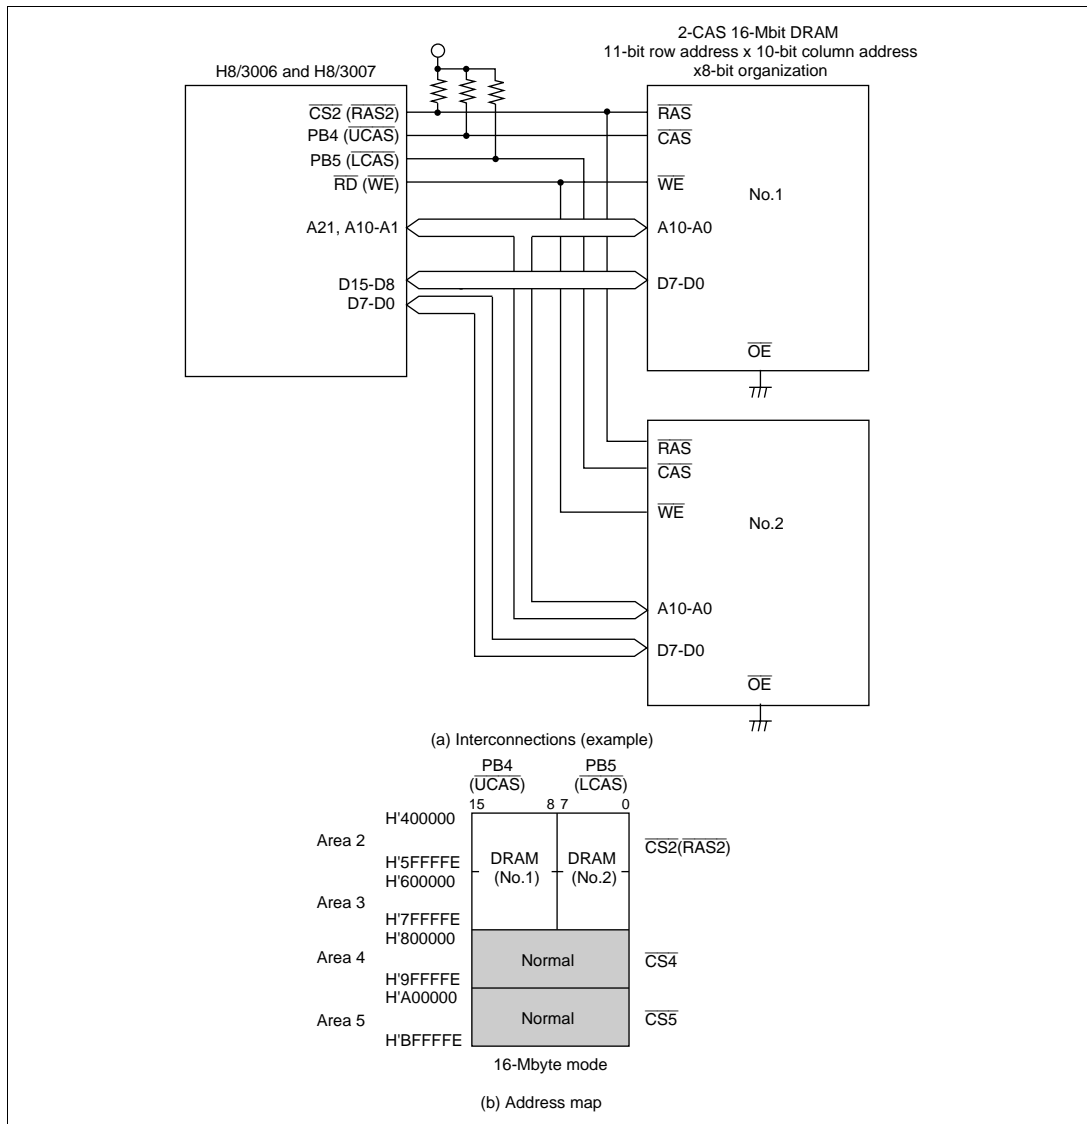

Figure 6.30 Interconnections and Address Map for 16-Mbit DRAMs with $\times 8$ -Bit Organization
- Figure 6.30 shows typical interconnections when using two 16-Mbit DRAMs using a $\times 8$ -bit organization, and the corresponding address map. The DRAMs used in this example are of the 11-bit row address \times 10-bit column address type. The $\overline{\text{CS2}}$ pin is used as a common $\overline{\text{RAS}}$ output pin for area 2 and area 3. When the DRAM address space spans a number of contiguous areas, as in this example, the appropriate setting of bits DRAS2 to DRAS0 enables a single $\overline{\text{CS}}$ pin to be used as the common $\overline{\text{RAS}}$ output pin for a number of areas, and makes it possible to directly connect large-capacity DRAM with address space that spans a maximum of four areas. Any unused $\overline{\text{CS}}$ pins (in this example, the $\overline{\text{CS3}}$ pin) can be used as input/output ports.